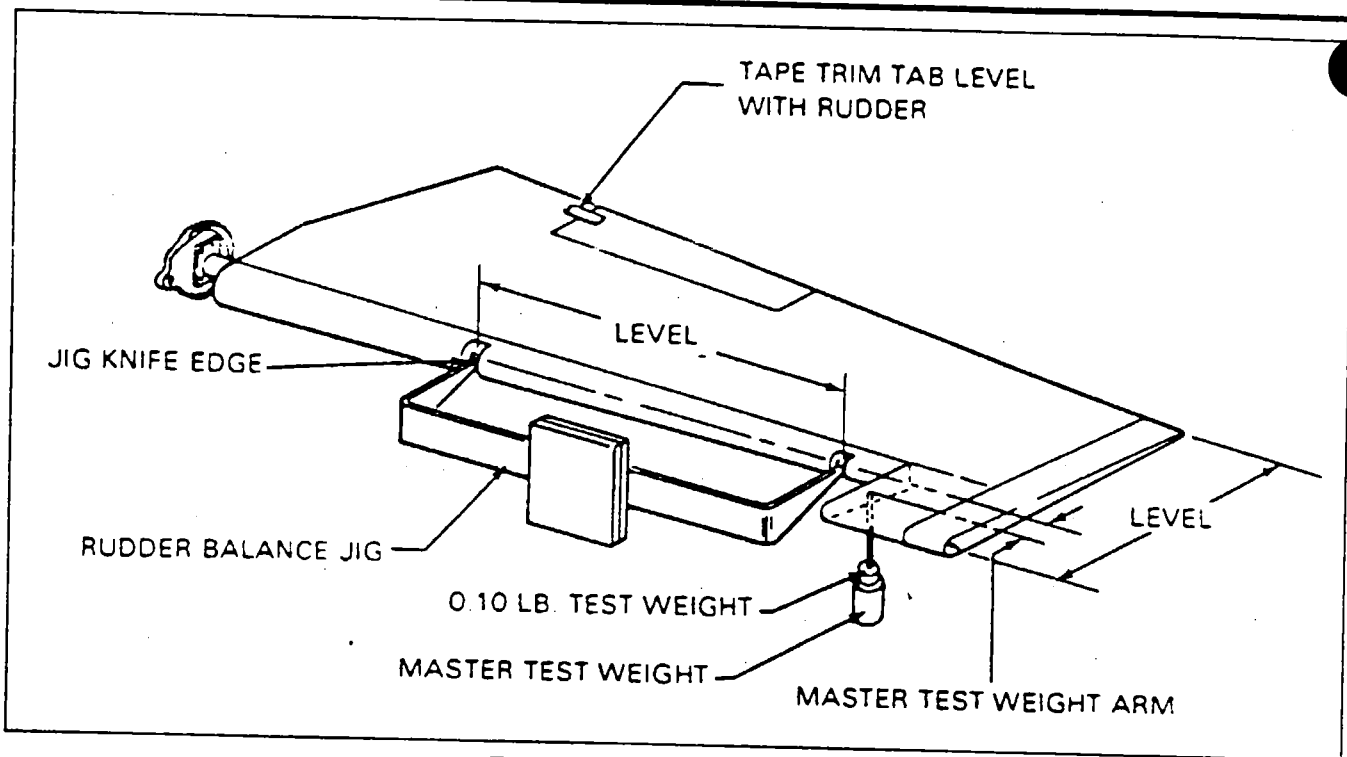

Figure 55-4. Rudder Balancing
RUDDER BALANCING PROCEDURE. (Refer to Figure 55-4.)
3. Fabricate a master test weight per specifications given in Chart 5502 and hang it in the existing tool hole in the rudder tip support channel. Ascertain that the tool hole is located to provide the proper master test weight arm as shown in Figure 55-4 and specified in Chart 5502.